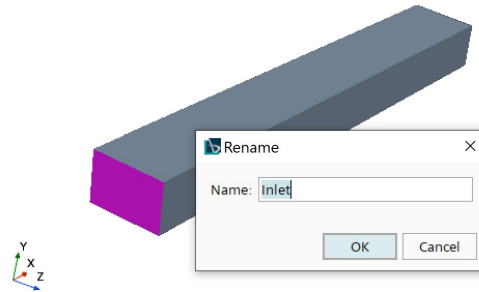

Figure 12: Renaming for faces in the 3D-CAD modeler.
15. In the *Display Window*, right-click each individual face of the model and rename it using the following naming convention shown in Table 1. The following Figure 12 depicts renaming the negative x-face to "Inlet":